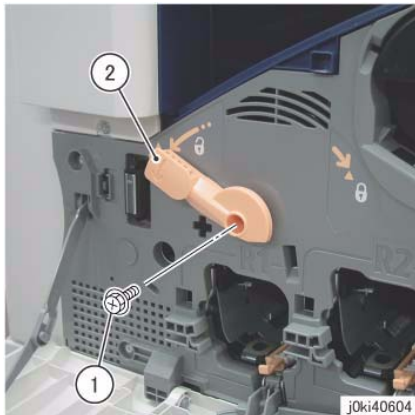

Figure 1 Remove the Tension Lever
5. Remove the Tension Lever of the Transfer Belt. (Figure 1)